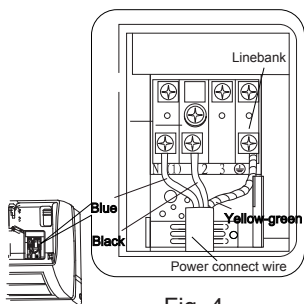

Fig. 4
4. Connect the blue wire among power connect wires onto terminal N(1) on line bank, black wire onto terminal 2 and yellow-green one (earth wire) onto terminal \oplus (as shown in fig.4).